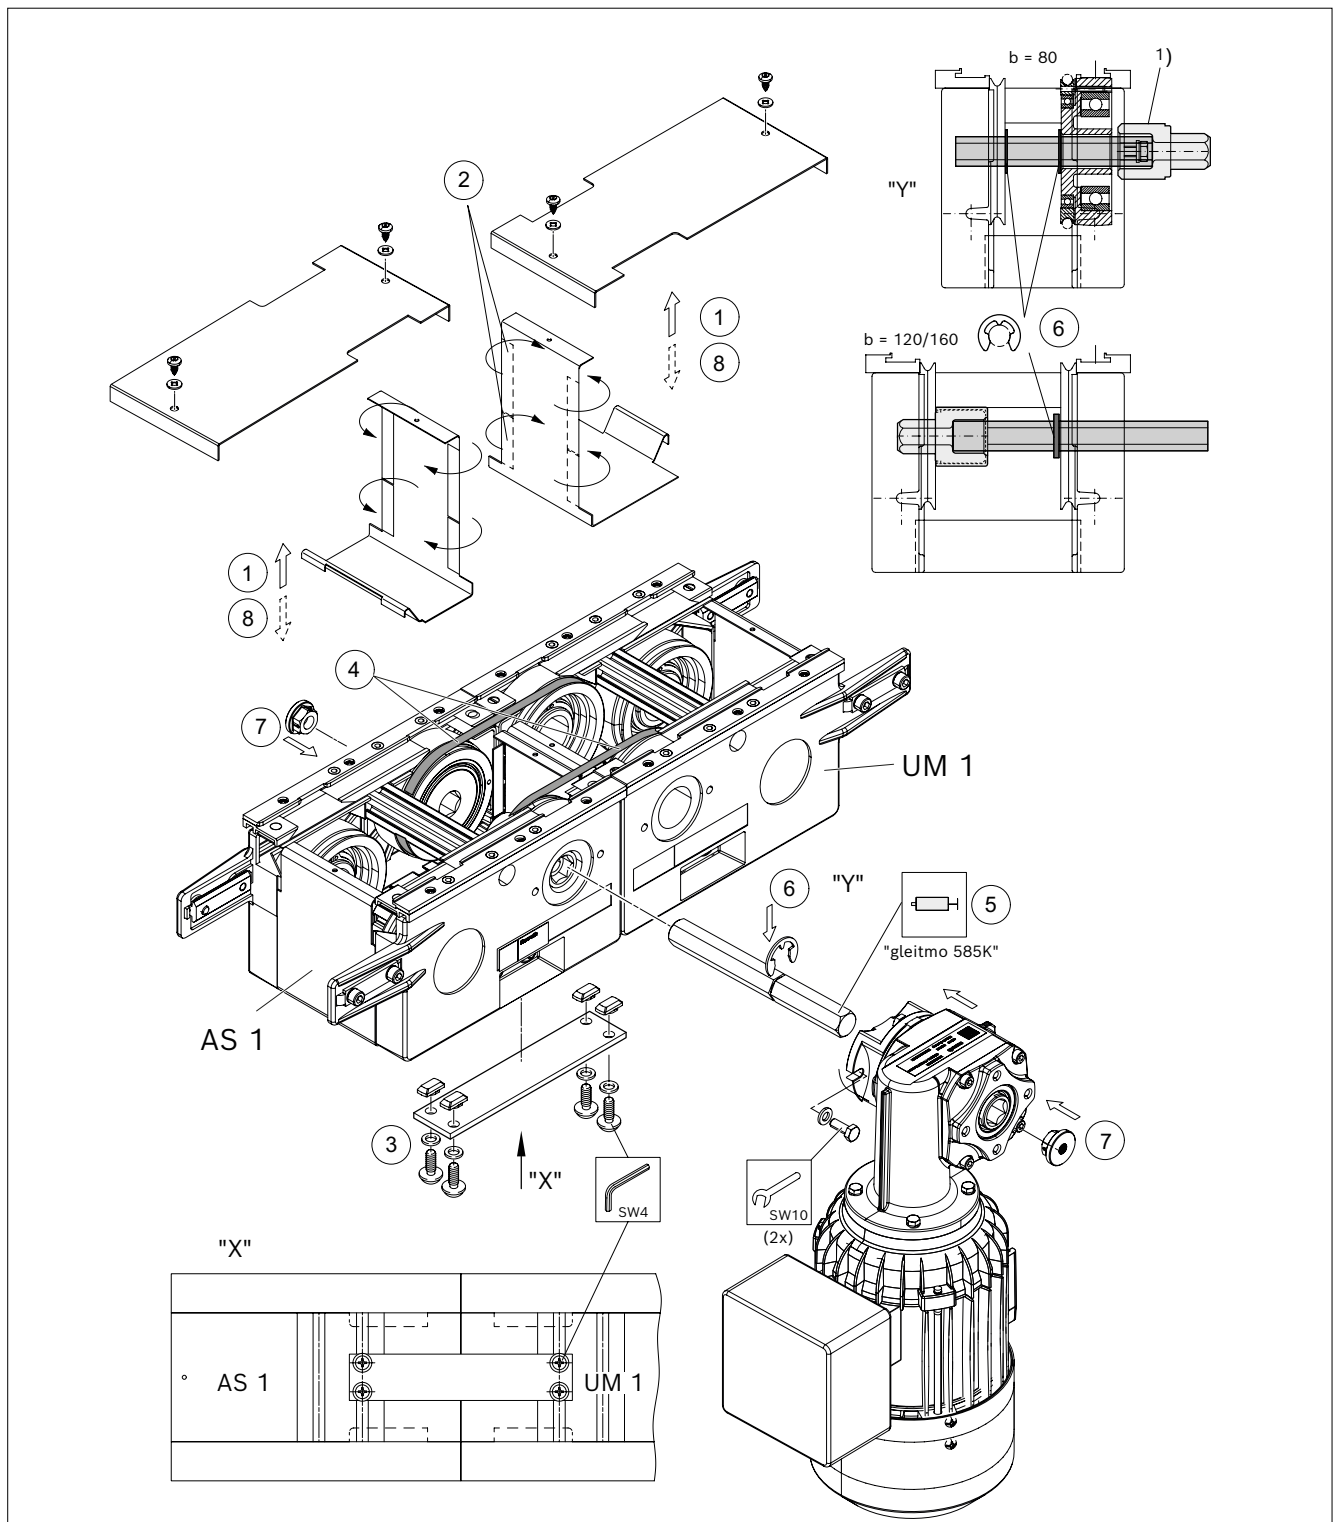

Fig. 14: Assembly of section joint
Head connection AS 1 and UM 1 (Fig. 14) with accessory kit:
For assembly steps, see Fig. 14 on the next page:
3. Screw together AS 1 and UM 1 with the accessory kit ("X"; Fig. 14).